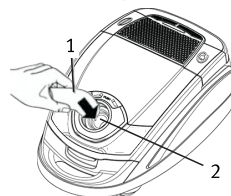
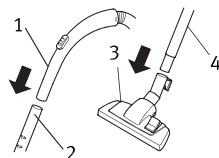

Figure 3
Figure 4
2. Insert the handle (Fig. 3/1) into the upper end of the telescopic tube (Fig. 3/2).
3. Attach the floor nozzle (Fig. 3/3) to the bottom end of the telescopic tube (Fig. 3/4).
4. Adjust the length of the telescopic tube by pressing down the release latch on the tube (Fig. 4/1). Then pull the handle of the telescopic tube to extend (Fig. 3/1) it to your desired length. Let go of the release catch while pulling until it locks in place. You will hear a distinct click.